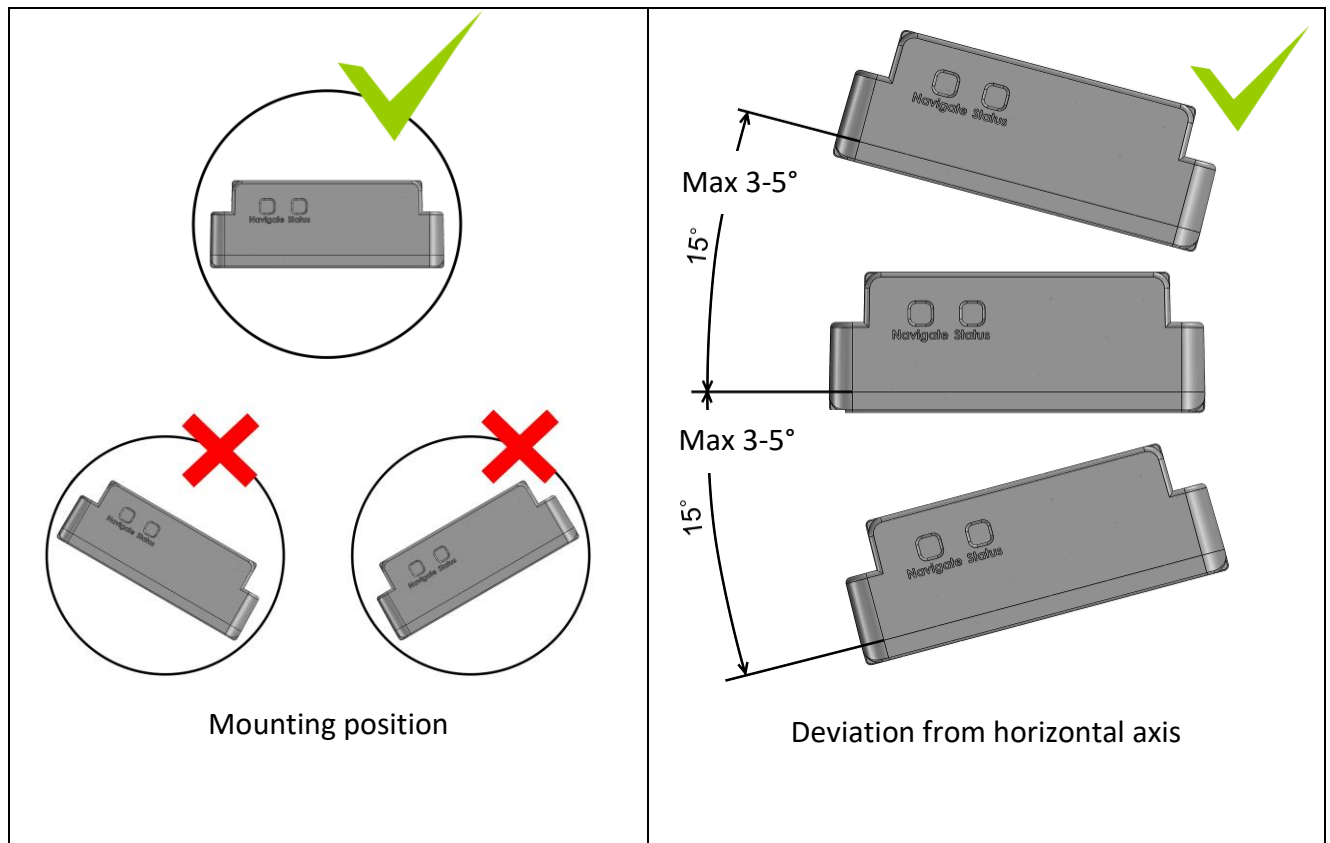

Figure 60. Mounting position and recommended deviation from horizontal axis of vehicle
2. Recommended deviation from horizontal axis of vehicle max 3-5°, as shown in **Figure 60**.
1. If using Green driving function device should be mounted horizontally to work properly, see **Figure 60 and 61**.